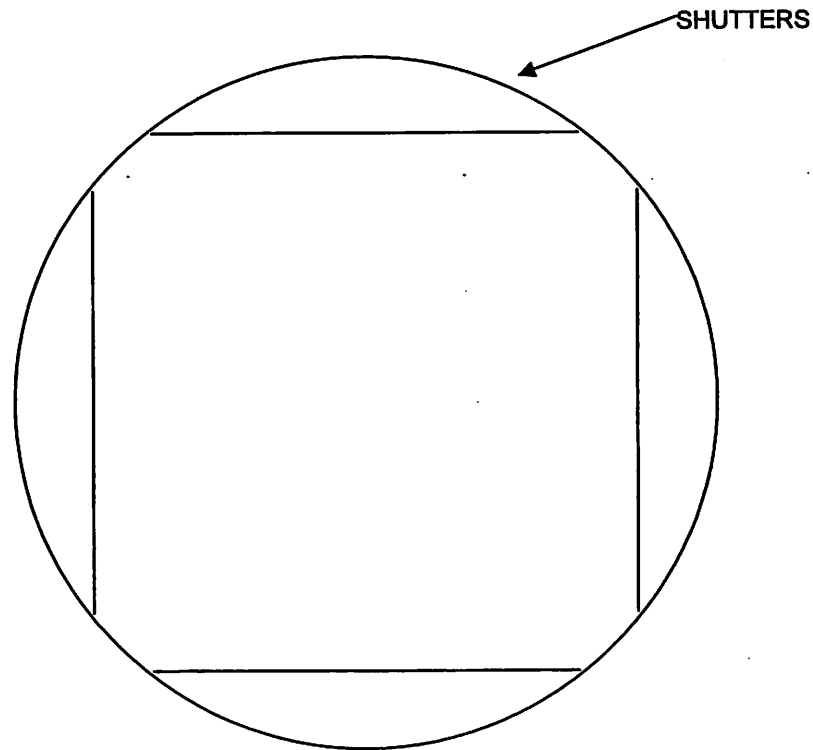

Figure 6.8
2. Activate the tube and slowly increase the field size while observing the monitor. If at the maximum field size it is obvious that the image of the beam-limiting device is apparent at the edge of the image receptor, no further test need be made. (See Fig. 6.8.)